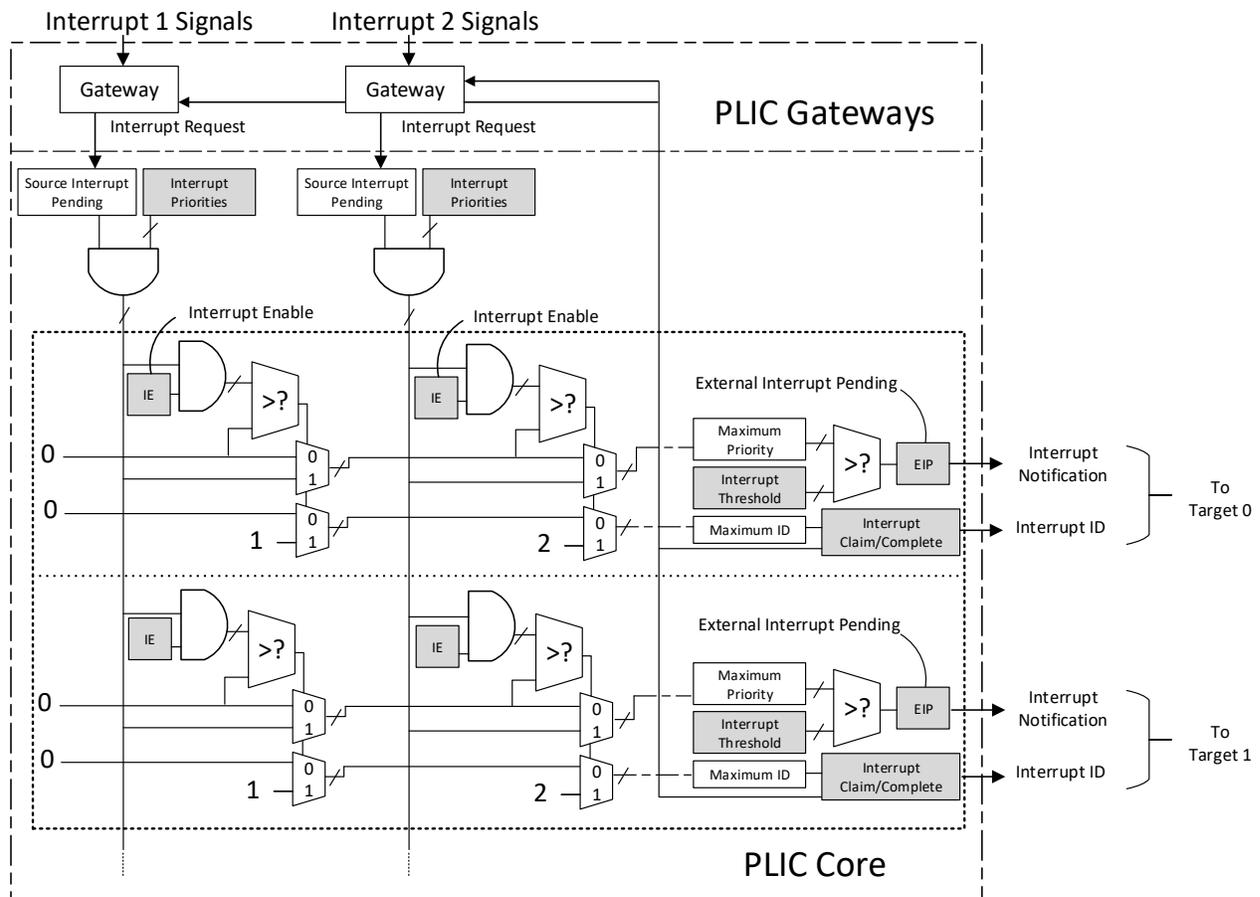

Figure 2.16. PLIC Operation Parameter Block Diagram
Figure 2.16 shows the block diagram of PLIC operation parameter. An example for how it works: interrupt input 1 gets asserted, it goes through the Gateway and sets Interrupt Pending bit of the Source. If its Interrupt Enable (IE) is set, the priority value can be passed and compared to other inputs all the way through the chain. The interrupt ID is similarly forwarded. So, if the Max Priority is larger than the threshold, External Interrupt Pending (EIP) can be asserted and sent to the processor. Meanwhile, the Gateway blocks subsequent interrupts from being forwarded until the current interrupt has been completed. Target 0 goes to Machine mode external interrupt, and Target 1 goes to Supervisor mode external interrupt.